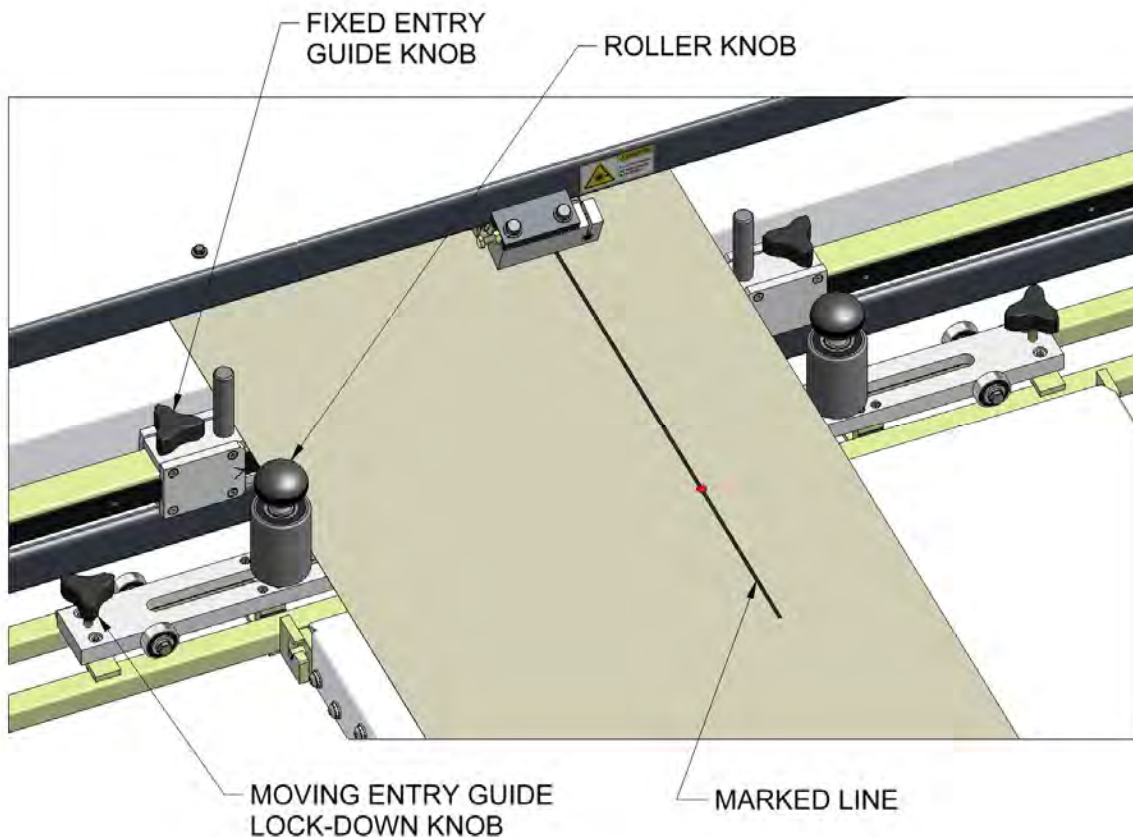

Fig. 7-1 Setting Up For A Straight Cut
1. Mark a two foot long straight line on the leading edge of the panel where the cut needs to be made, see **Fig 7-1**.
3. Tighten the lock-down knobs on the Moving Entry Guide to hold it in place. Loosen the roller knobs, move the rollers up against the sides of the panel, and tighten the roller knobs back down again, see **Fig 7-1**.
4. Loosen the knobs on the Fixed Entry Guide, slide the material stops against the sides of the panel, and tighten the knobs back down again, see **Fig 7-1**.